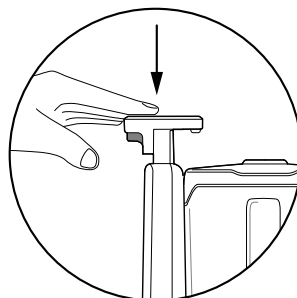

Figure 5
8. Push the Arm Lock on the NutriSeal™ Vacuum Arm down (Figure 5). The NutriSeal™ Vacuum Arm Light Indicator will turn off.